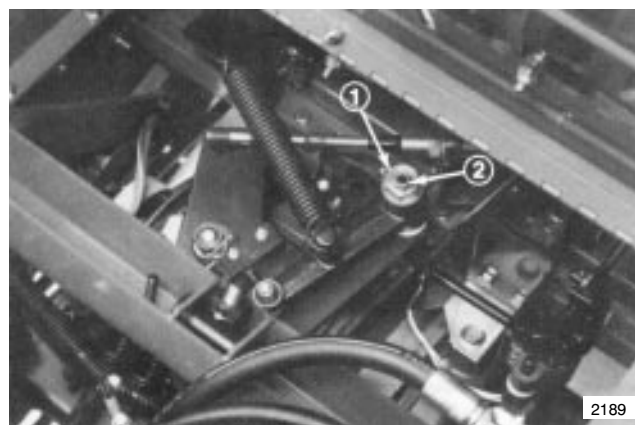

Figure 29
4. Loosen lock nut on adjustment cam (Fig. 29).
5. Start engine and rotate adjusting cam in either direction until wheels stop rotating (Fig. 29).
6. Stop engine and tighten lock nut to secure adjustment (Fig. 29).